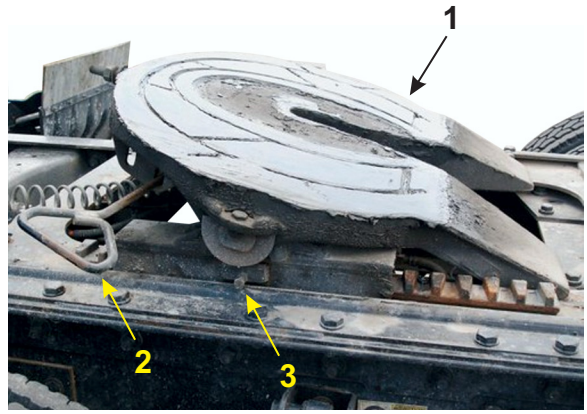

Figure 3-5 – Tractor Fifth Wheel in Coupling Position
- Check that the fifth wheel is in the proper coupling position with the fifth wheel plate tilted down towards rear of tractor (1, Figure 3-5).
- Check that the safety unlock handle is in the automatic lock position (2, Figure 3-5).
- Confirm that the sliding fifth wheel is locked in position (3, Figure 3-5).